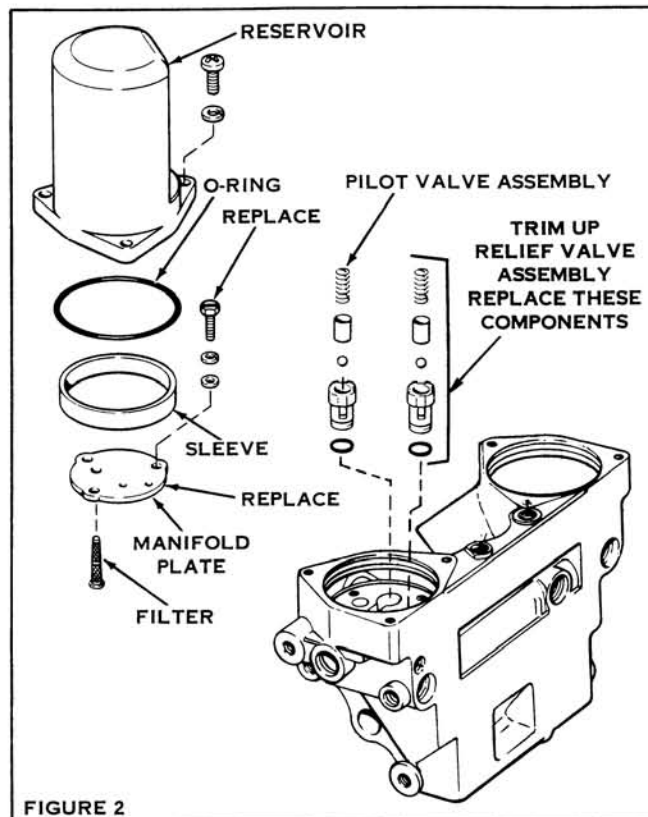

FIGURE 2
4. Remove three manifold plate screws and plate. Push the reservoir filter down out of the plate and discard old plate and plate screws. Save the washers and filter. See Figure 2.
5. Remove relief valve spring, core, steel ball, valve seat, and O-ring from manifold and discard these components. See Figures 2 and 3. Filter valve seat should not be removed unless it is being replaced.